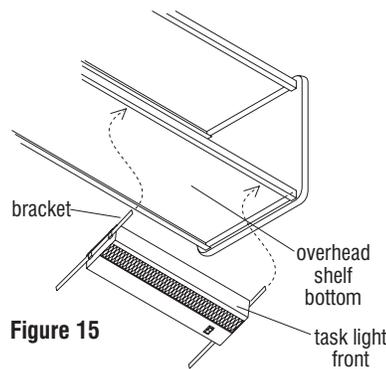

Figure 15
3. Locate front of task light brackets inside front lip of overhead shelf bottom (Figure 15).